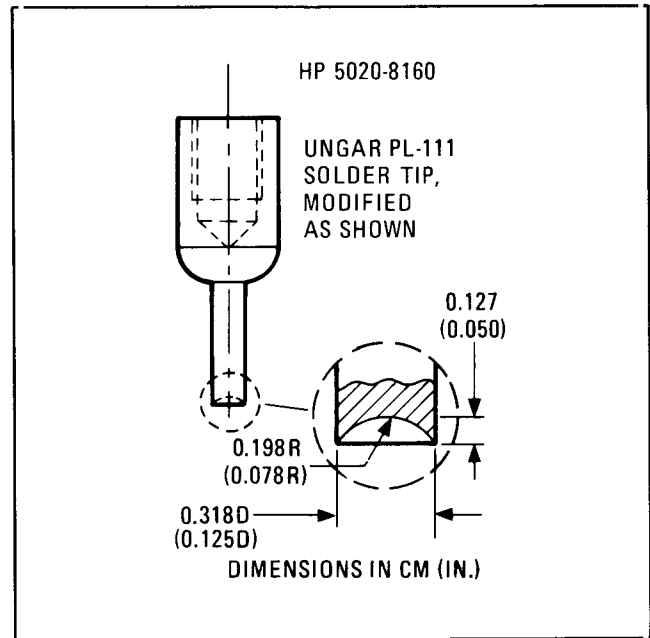
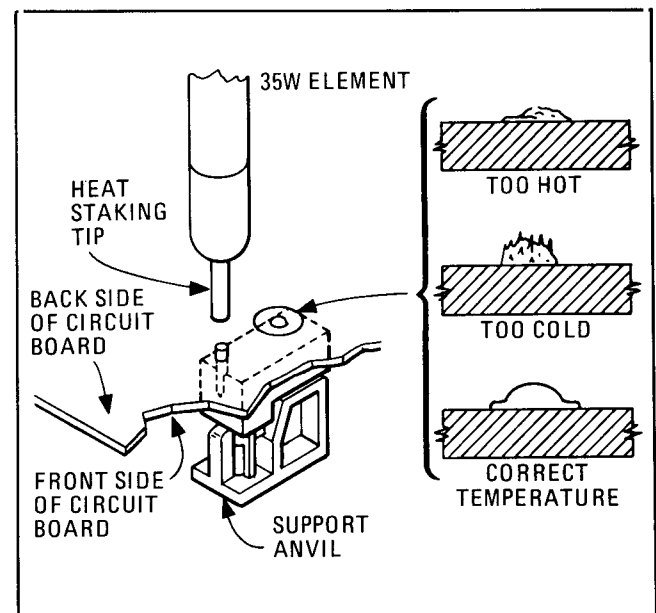

Figure 8-5. Heat Staking Tip
Figure 8-6. Typical Assembly for Heat Staking Operation
- To assure proper switch assembly, verify that the switch is pushed firmly against the circuit board and, with the hot (440C or 825°F) staking tip (refer to Figure 8-5) push down on each of the posts (2) of the switch. Each post should take about one second to stake. With the proper cycle, the post should turn a darker color and, in about ten seconds, return to its original bright red color. The correctly staked post should have a smooth round "rivet" like top. Refer to Figure 8-6.